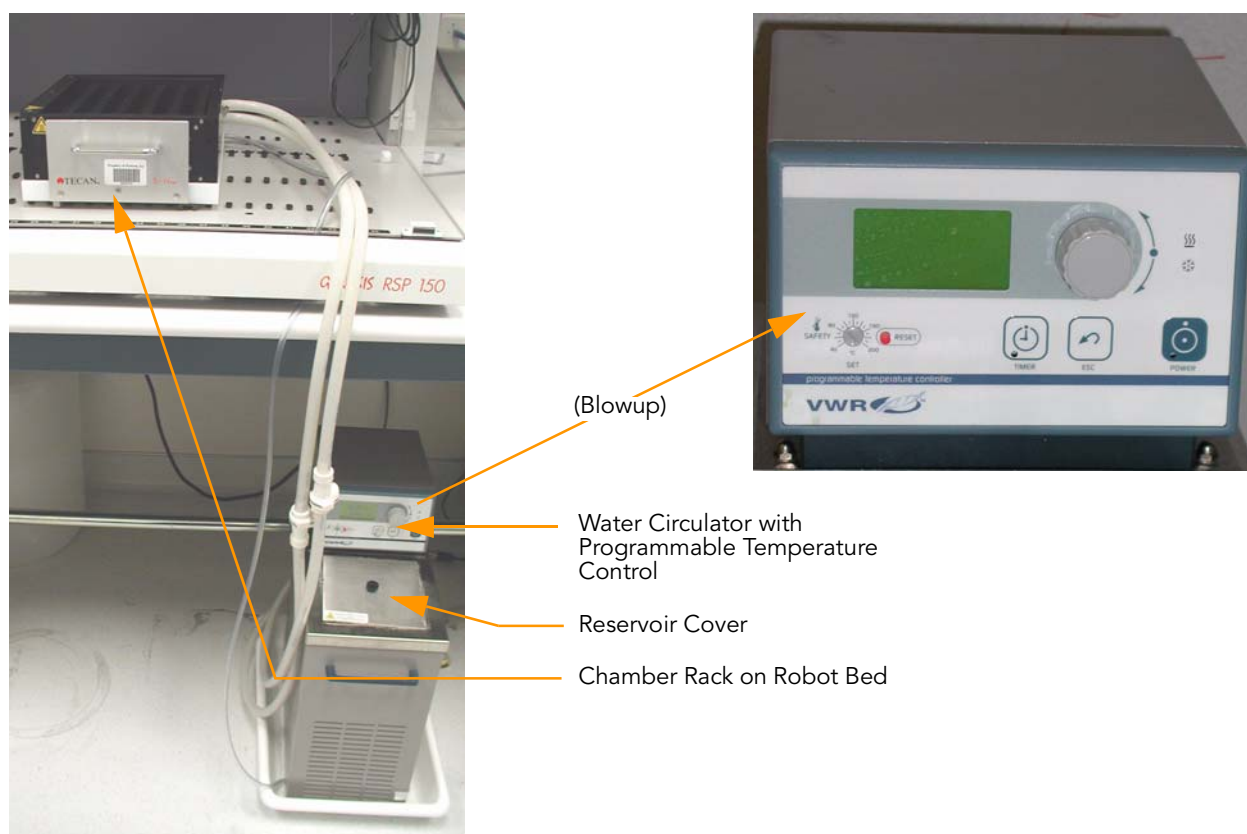

Figure 55 Water Circulator Connected to Chamber Rack
2. Turn on the water circulator and set it to a temperature that brings the Chamber Rack to 44°C at equilibrium (Figure 55).